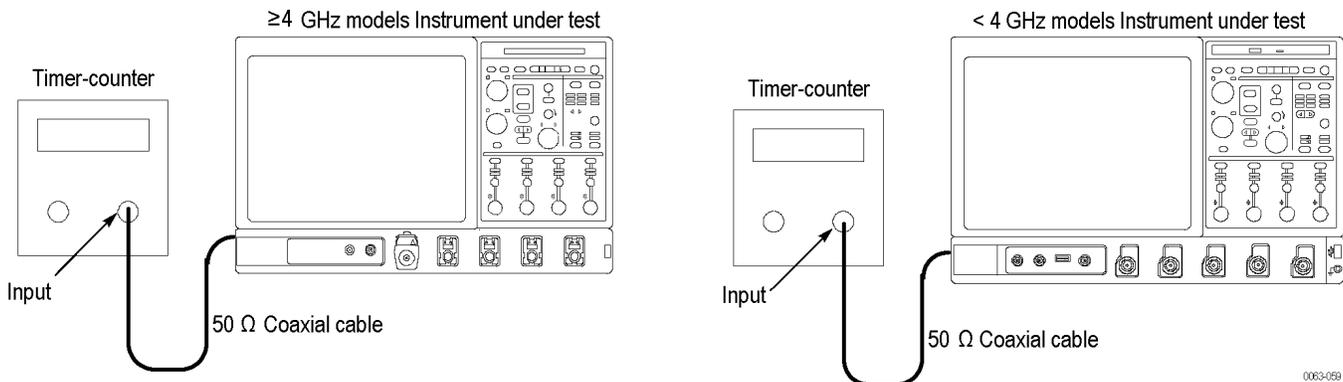

Figure 26: Timebase and delay time initial test hookup
- a. *Hook up the test-signal source:* Connect the input of the timer-counter to **AUX Out** (DPO7000C models) or reference output (MSO/DPO70000C/DX models). (See Figure 26 on page 298.)